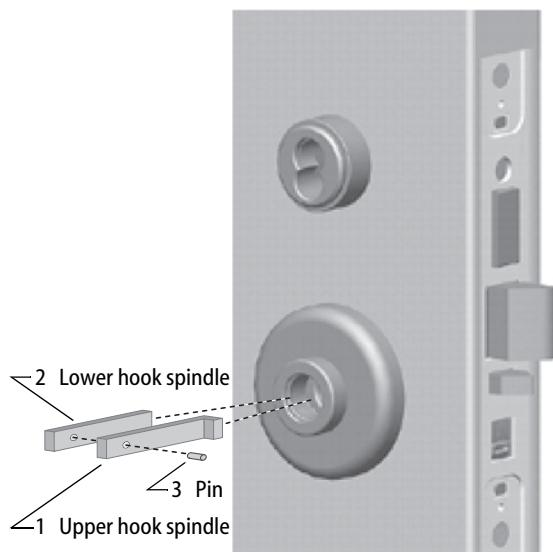

Figure 15b *Installing the hook spindle*
For one side only lever installation (Figure 15b)
- 1 Insert the upper hook spindle into the hub cavity with the hook towards the latch as shown in Figure 15b.